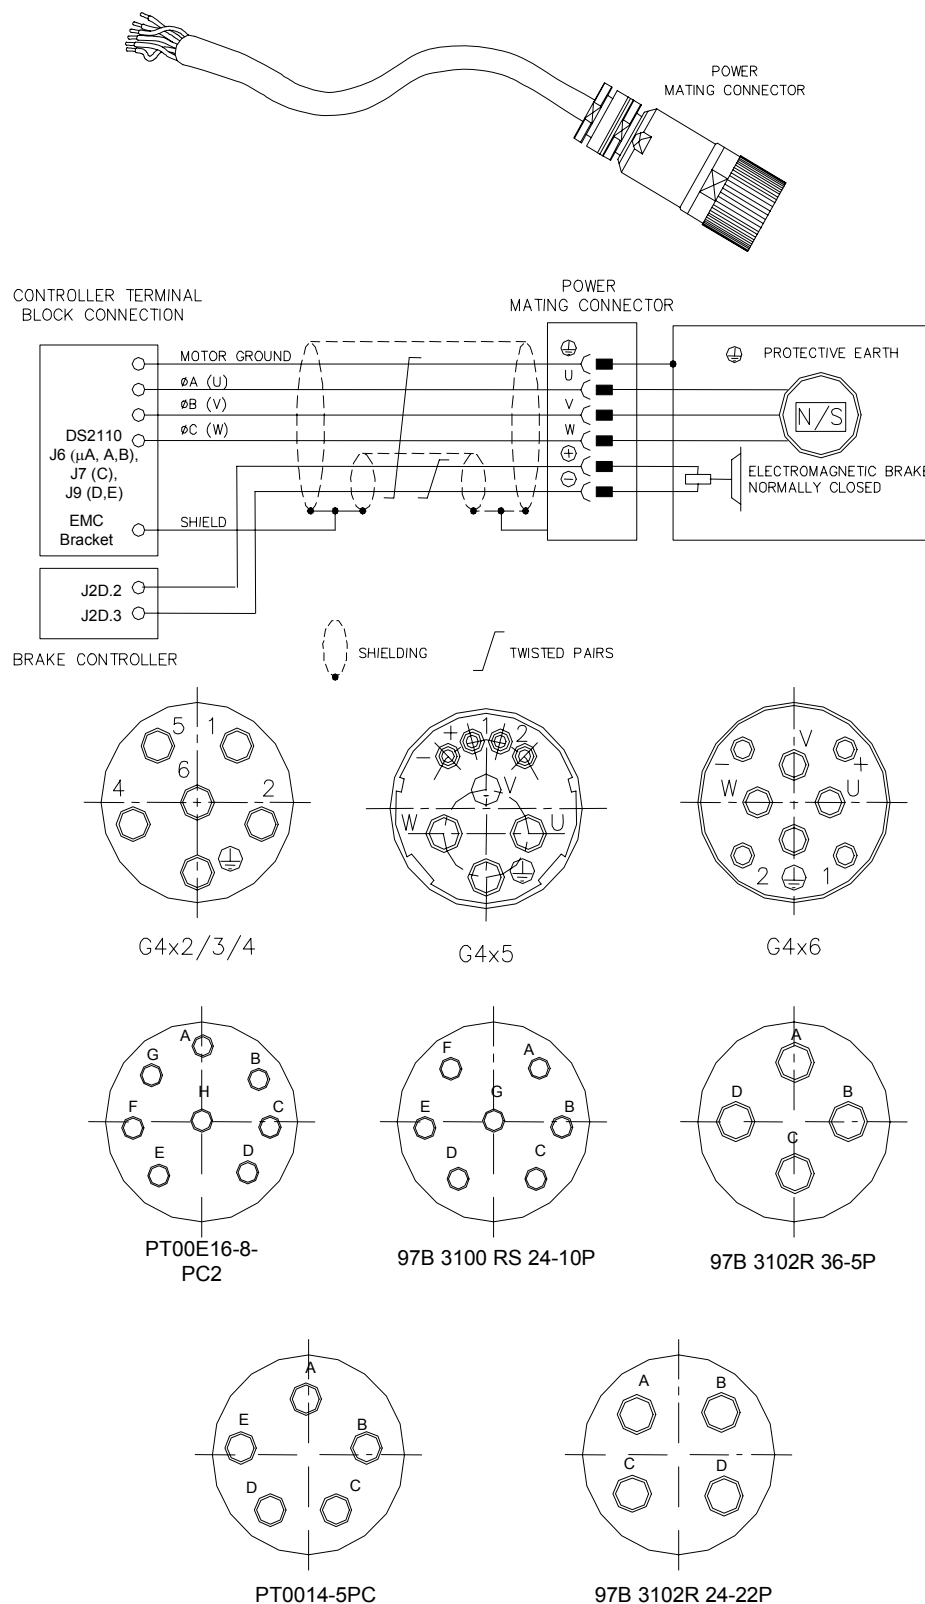

Figure 3.37 Motor Power and Brake Connectors
* The pins of the brake terminals at the motor cable connector end depend upon the cable size. Refer to Figure 3.37 for details.